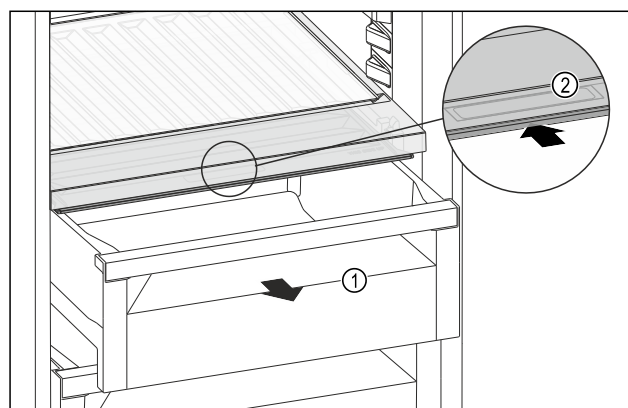

Fig. 177
- Pull out the drawer Fig. 177 (1).
- Grasp the recessed grip Fig. 177 (2) on the compartment lid and push the compartment lid backwards at the same time.